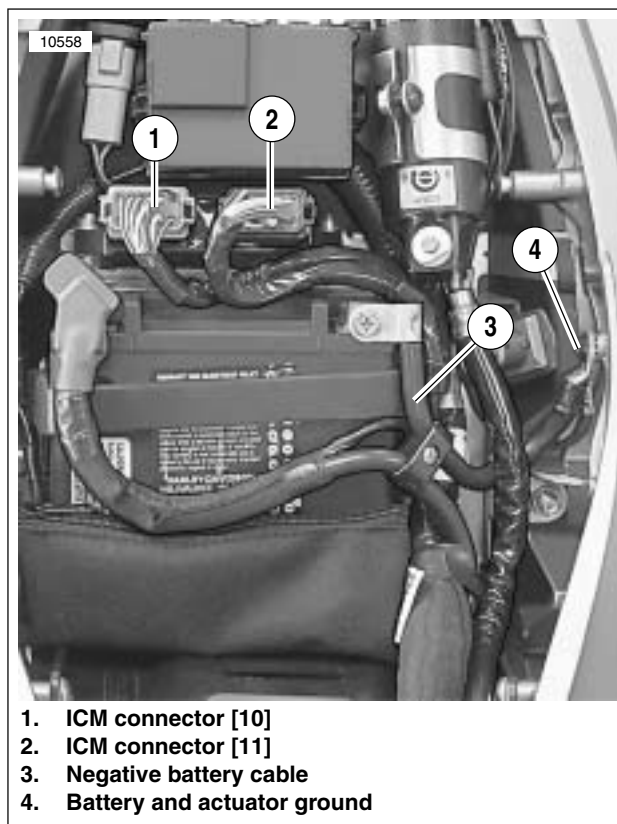
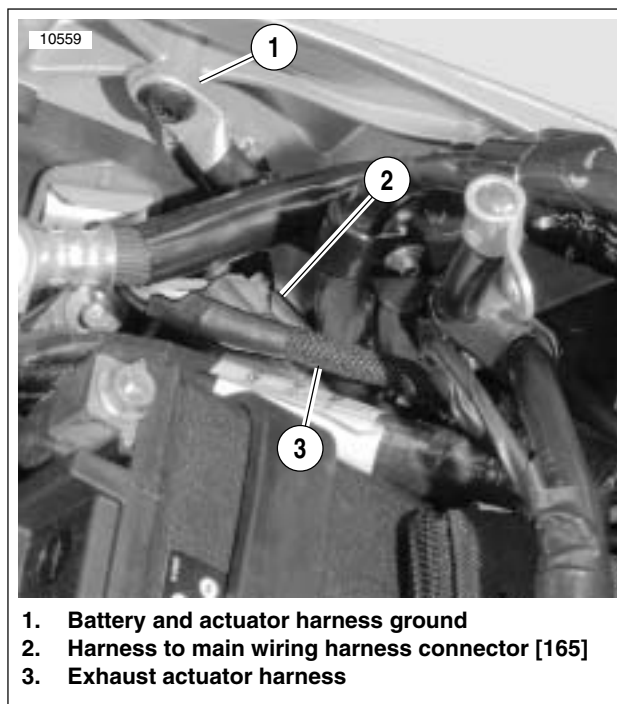

Figure 7-89. Harness and Cable Routing
Figure 7-90. Exhaust Actuator Harness Connector [165]
3. See Figure 7-89. Remove negative battery cable (3) from battery. See 7.11 BATTERY.
5. Remove main battery ground and the exhaust actuator ground (4).
6. See Figure 7-90. Separate exhaust actuator harness connector [165] (2) at main harness.